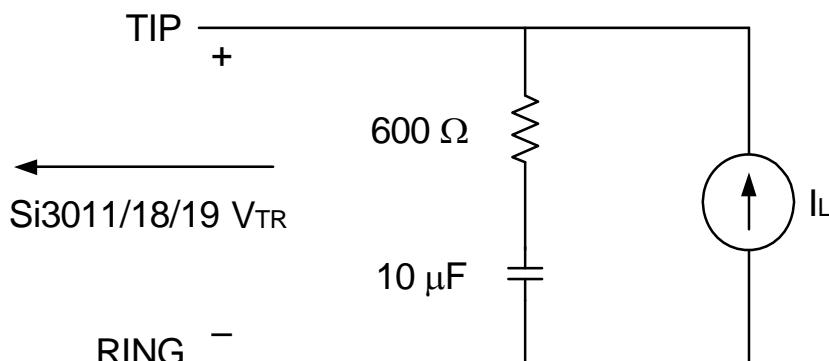

Figure 1. Test Circuit for Loop Characteristics
(V_D = 3.0 to 3.6 V, T_A = 0 to 70 °C, see Figure 1 on page 6)
1. Measured at TIP and RING with 600 Ω termination at 1 kHz, as shown in Figure 1 on page 6.